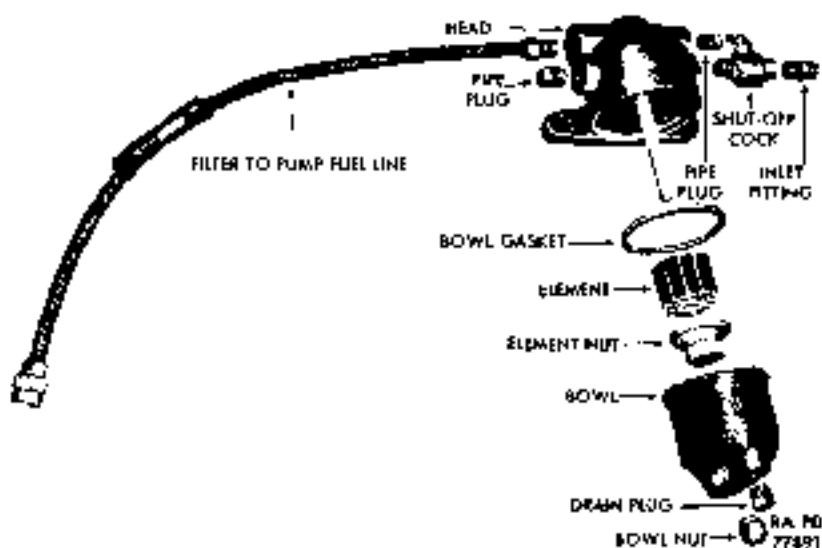

Figure 32 — Fuel Filter Disassembled
(1) **DESCRIPTION (figs. 32 and 33).** The fuel filter is mounted on the outside of main frame left side rail, and can be reached through an opening immediately above the left-hand lower step. Gasoline flows from the fuel tank to fuel pump through the filter,
h. Maintenance (fig 32). Service fuel filter when lubricating chassis. Remove bowl nut from bottom center of bowl. Lower bowl and bowl gasket from filter head. Unscrew element nut and lower element from stud. Wash all parts in dry-cleaning solvent, and dry with compressed air. Inspect element and gasket, and replace broken, bent, or torn parts. Place element in position on stud, and install element nut. Position gasket on top of bowl, position bowl on under side of filter head, and install bowl nut. Loosen one of the two pipe plugs on side of filter head and start engine. Tighten pipe plug when fuel drips from it.
a. **Description.** Gasoline is conducted from fuel tank to carburetor through three fuel lines. Tank to filter fuel line (fig. 34) and pump to carburetor fuel line is flexible woven metal (fig. 32). Brass sleeve coupling nuts are used throughout.